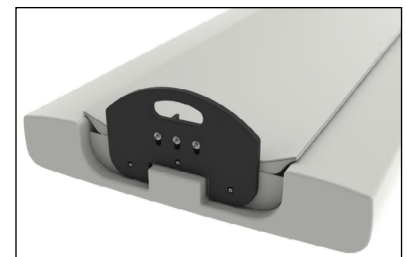

Fig. 8
- Once red pin inserts and ejects easily, secure the locking nuts using the  $\frac{7}{16}$ " wrench (Fig. 8).